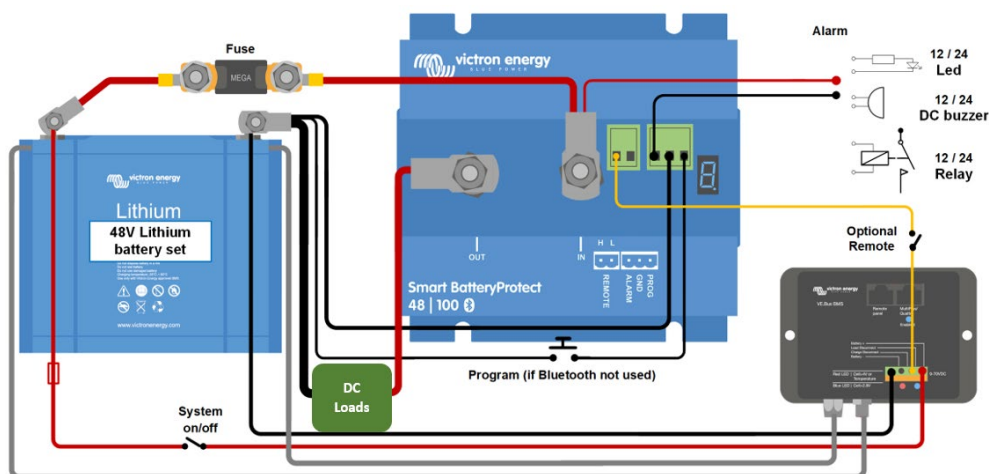

Figure 4: System with Li-ion battery (applicable with VE.Bus BMS or smallBMS)
- When in Li-ion mode the SBP will observe a dead period of 30 seconds after the remote input of the SBP has become free floating. See the note under figure 4 for a detailed description.